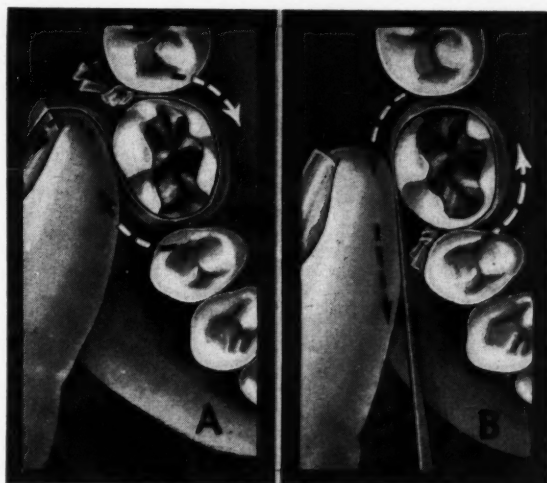

Fig. 5
Fig. 5—To assist in compression to secure proper interproximal adaptation of the wax pattern, a strip of rubber dam is knotted at one end, the knot is lodged in the interproximal area, and the rubber strip is carried around the tooth. The knot is placed at the buccal for posterior two-surface patterns: (A) At the distobuccal for a mesio-occlusal pattern, and (B) at the mesio-buccal for a disto-occlusal pattern. The advantage of this procedure is that only one end of the rubber dam need be manipulated by the operator.